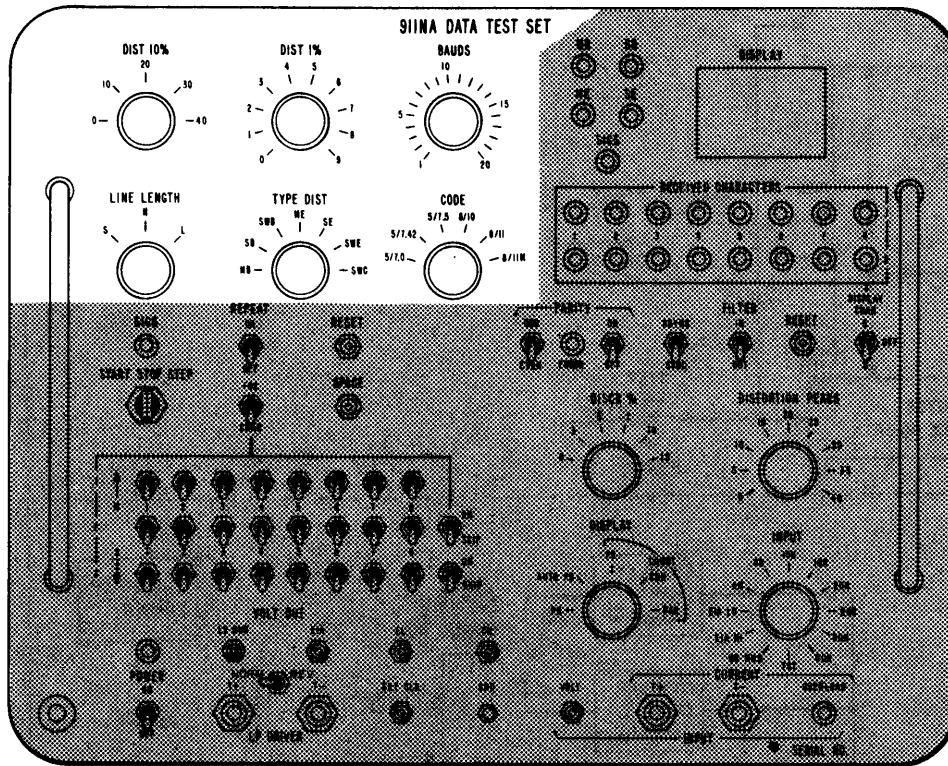

Fig. 11—Location of Switches Governing Type of Signal
3.12 Figure 11 shows the six switches on the TSG that are used to set up the type test sentence to be generated.